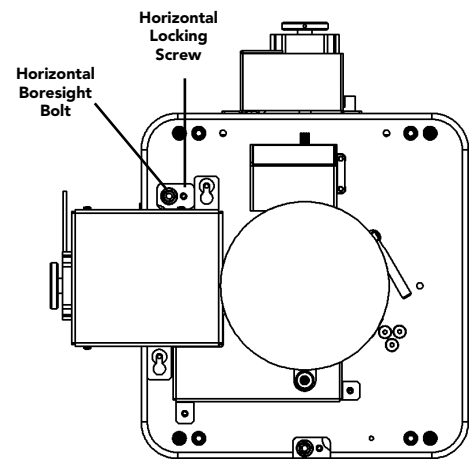
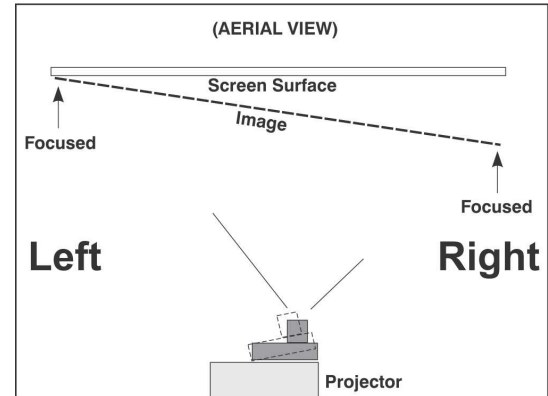

Figure 2-29 Horizontal Boresight
Figure 2-31 Aerial View Illustrating Misaligned Boresight
1. The Horizontal Hold Screw (Horizontal Locking Screw) acts as counter-resistance to hold the lens mount in place once set. Before adjusting the boresight, loosen the Horizontal Locking Screw. See Figure 2-29.
- a. If the right side of the image comes into focus before the lens is completely retracted, then the image focuses in front of the screen. See Figure 2-31. To correct this problem, adjust the Horizontal Boresight Bolt to direct or aim the lens mount towards the **RIGHT** to balance out the left/right edges. See Figure 2-29.
7. Adjust the Horizontal Locking Screw to lock adjustments in place. Check boresight again. See Figure 2-29.